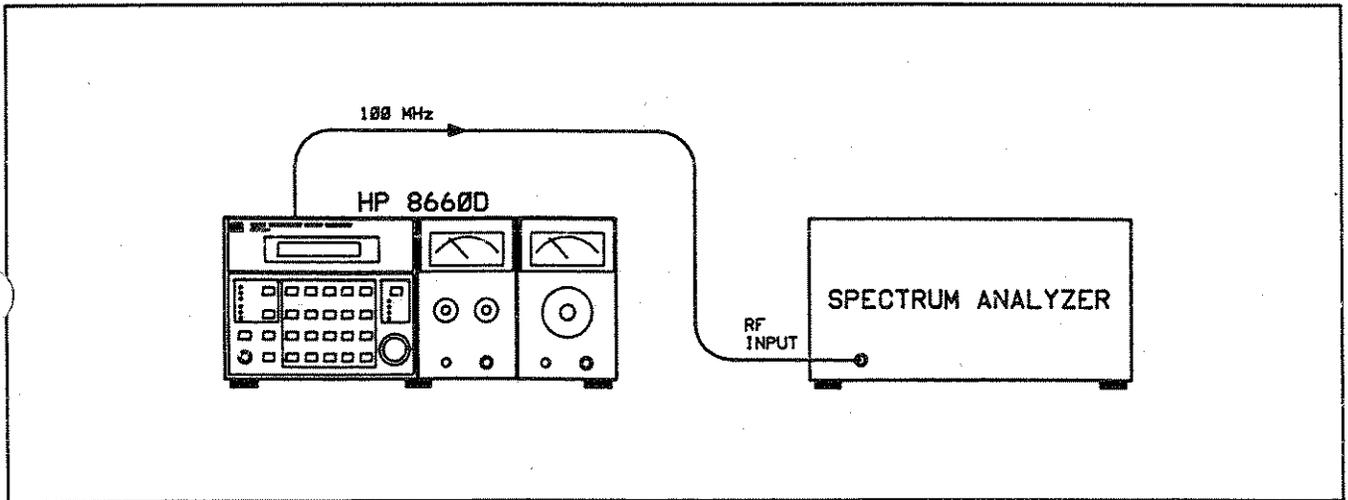

Figure 5-5. RF Level Checks Test Setup
- d. Connect the Spectrum Analyzer RF INPUT to the 100 MHz output of the A4A4 assembly and tune the Spectrum Analyzer CENTER FREQUENCY to 100 MHz. The 100 MHz signal should be >+10 dBm (see Figure 5-5 and 5-6).